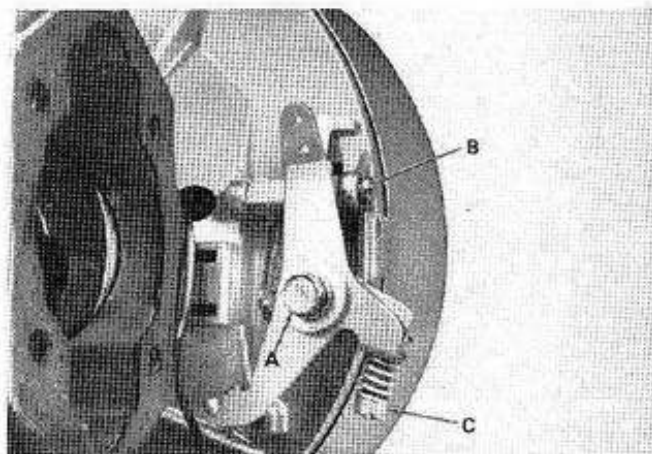

Figure 63. Governor and Throttle Linkage Removal.
The governor and throttle linkage attached to the backplate of the engine can now be removed. (See Figure 63.) Using a 3/8" socket, remove screw (A), and disconnect the remaining governor and throttle linkage from the backplate of the engine. Then remove screw (B) and lift off the governor vane.